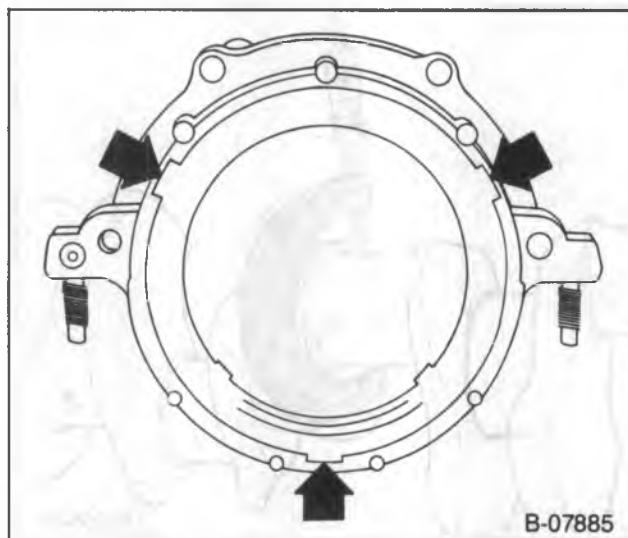

Figure 50—Seal Removal Notches
Disassemble (Figure 50)
- Rear crankshaft oil seal. Insert a screwdriver into the notches provided in the seal retainer and pry the seal out (figure 50).